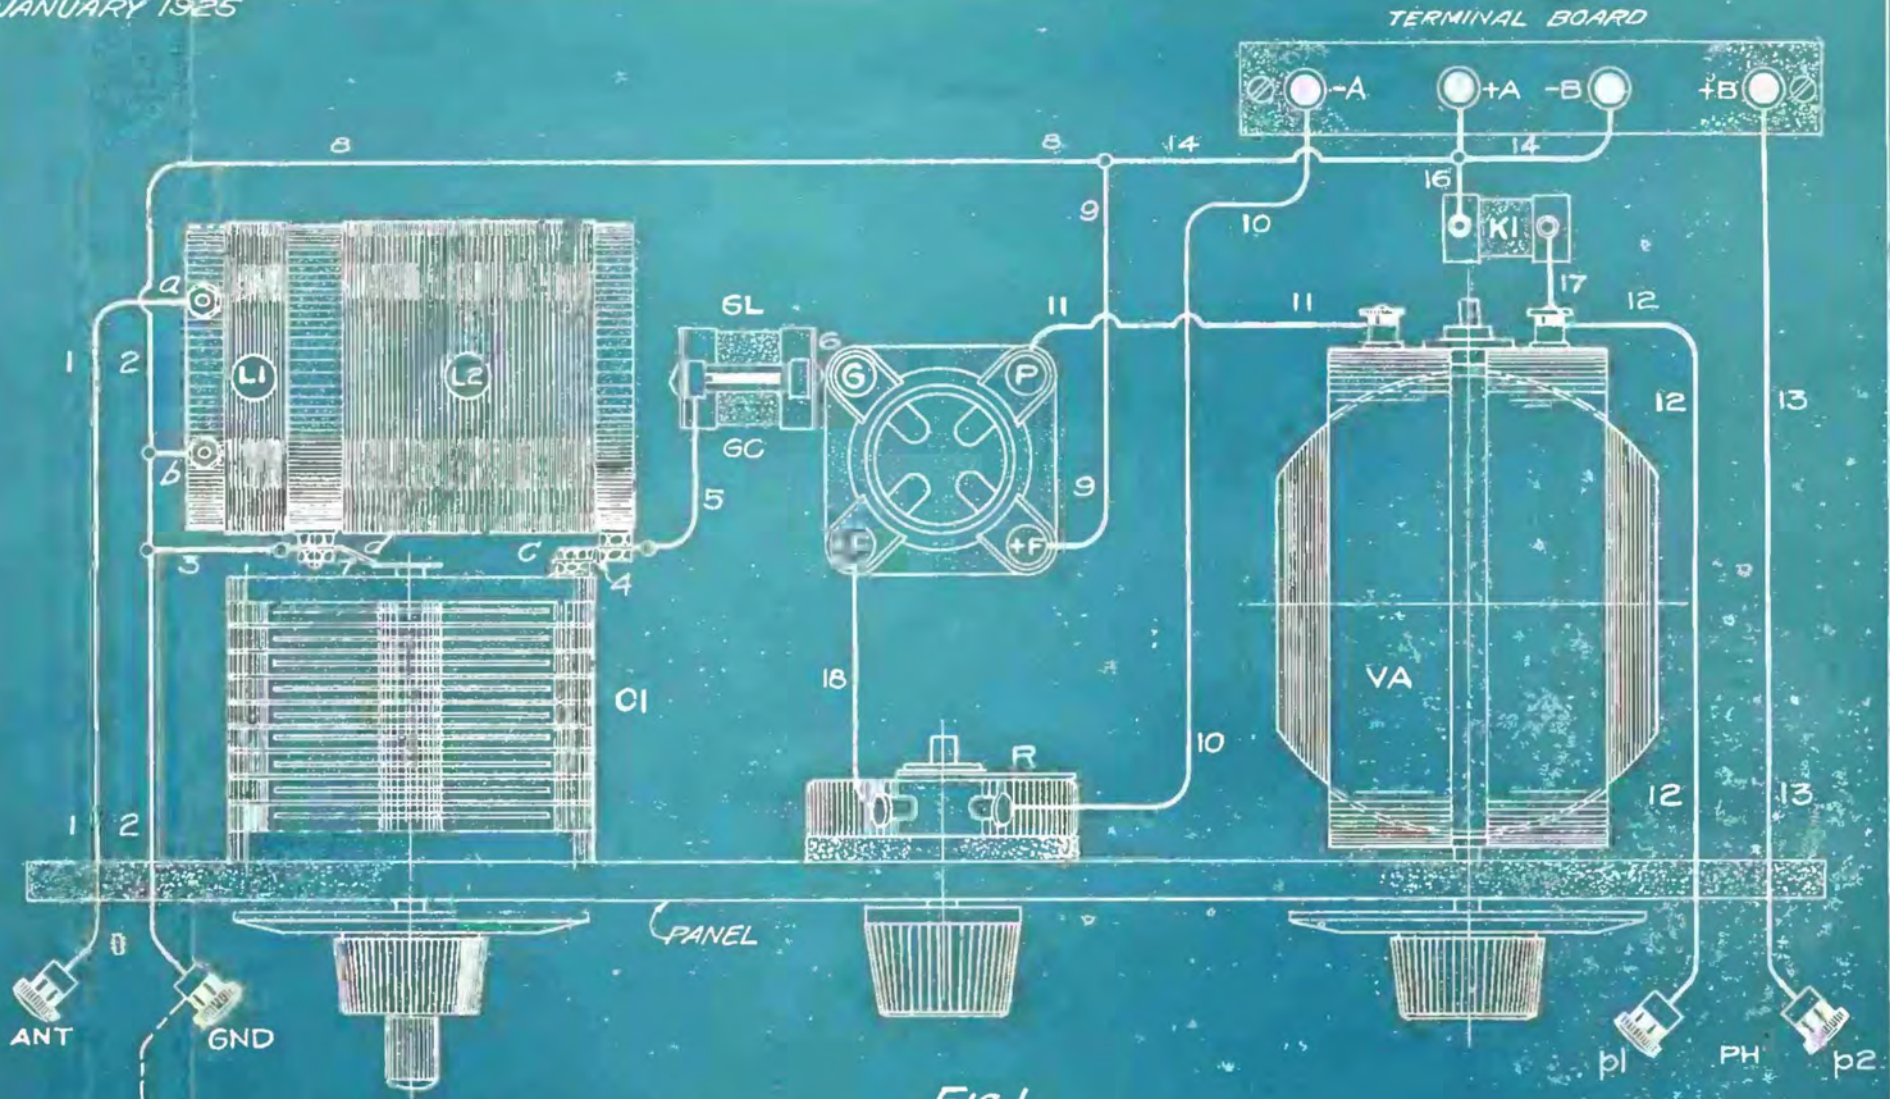
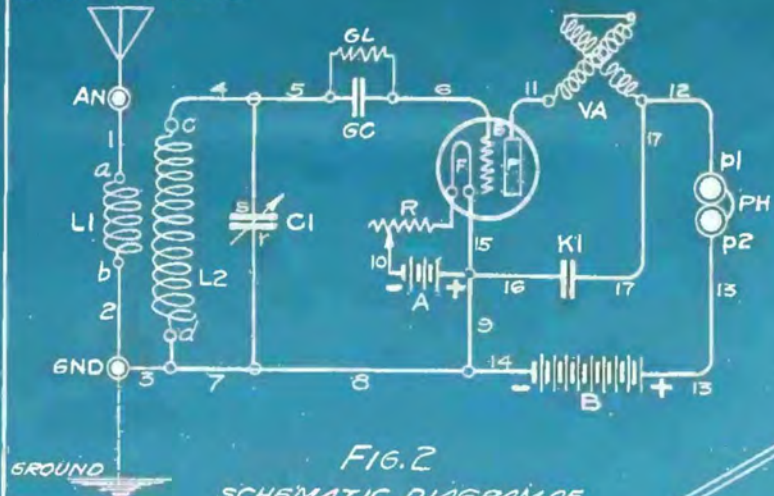
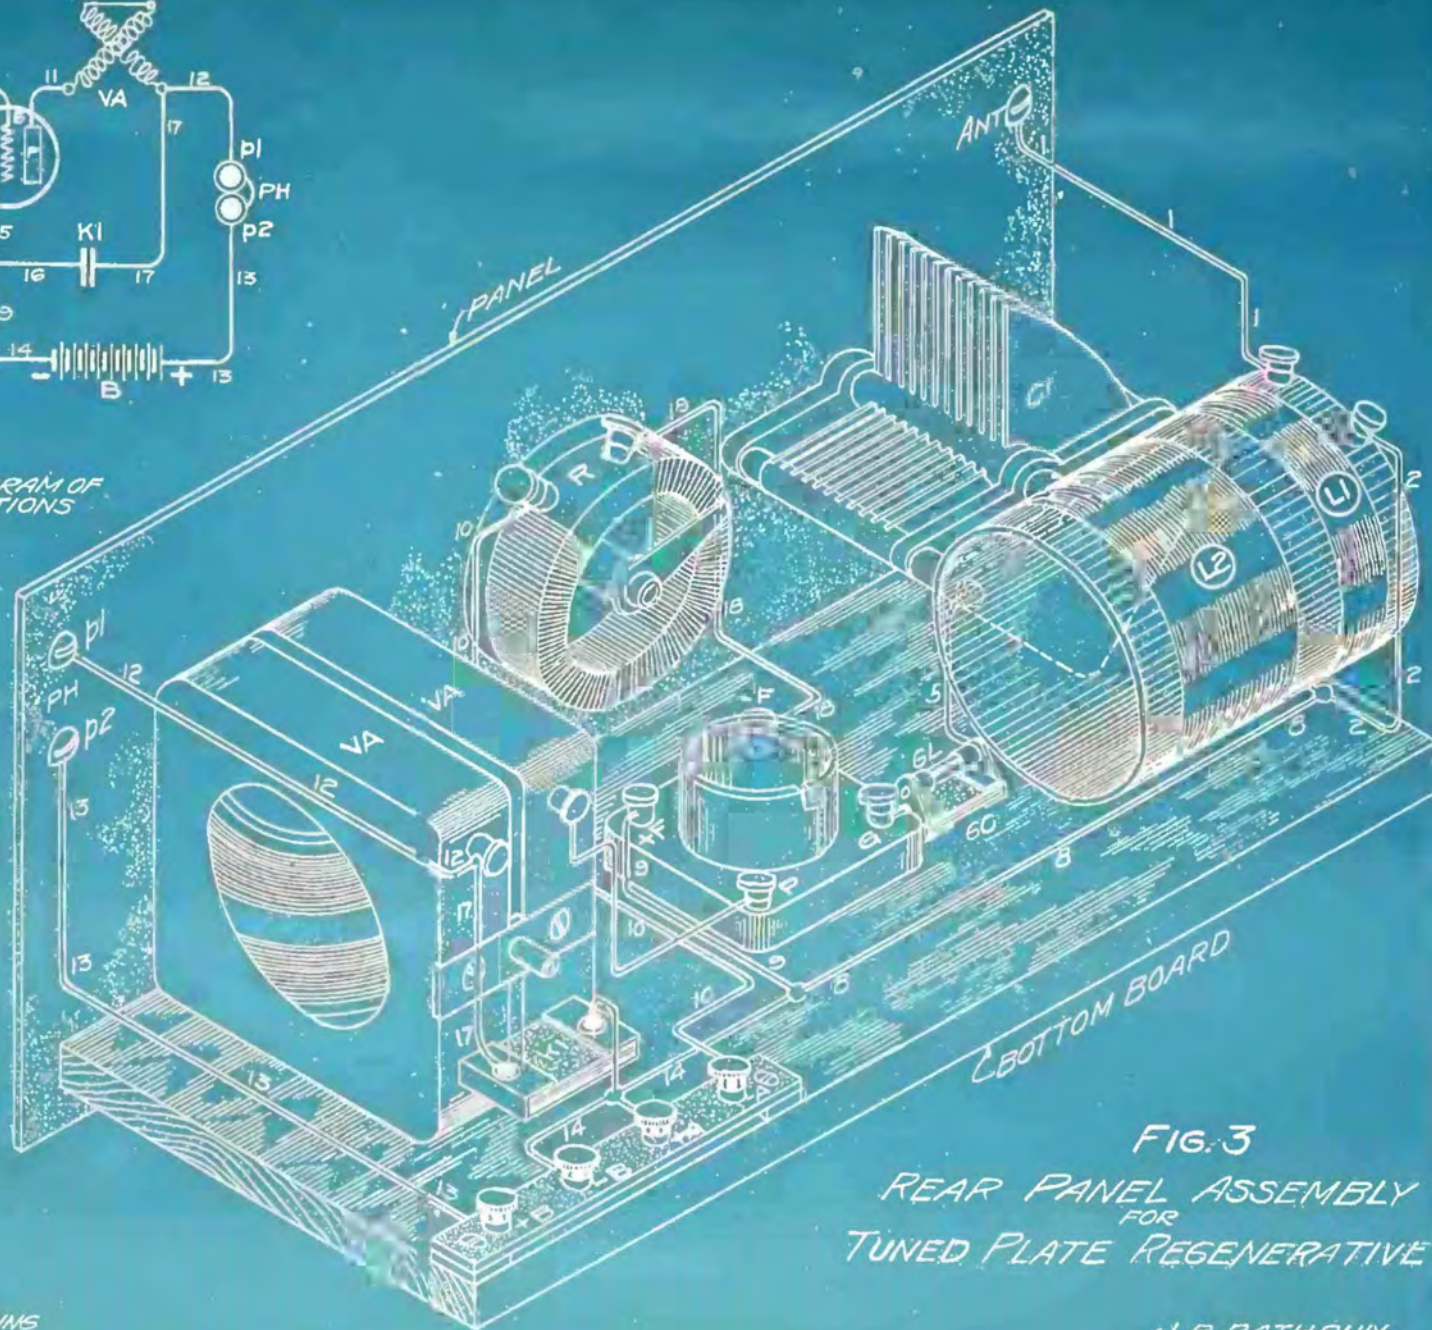

FIG. 1
FIG. 2
FIG. 3
FIGS. 1-2 show the circuit of the three tube "99" Reflex, Fig. 1 being a picture diagram while Fig. 2 is a conventional diagram with the various parts denoted by symbols, the latter being of use to the more experienced builder who wishes to trace out the functioning of the circuit. Fig. 3 is an isometric view showing the appearance from the back of the panel and the general arrangement of the apparatus, but should not be used exclusively for hooking up the set as several of the wires are concealed behind the various units.
On examining Fig. 1 or Fig. 2 we see that two common air core radio transformers or "neutroformers" (RFT-1) and (RFT-2) are used for coupling the R. F. stages. They are preferably tuned by the 17 plate (0.00035 mf) condensers (C1) and (C2) of the vernier type.
Fig. 1 is a "picture diagram" of the circuit arranged for the use of the beginner. In Fig. 2 is a schematic diagram by which the action of the circuit can be more easily traced out by those experienced in handling symbolic diagrams. In the following description we will refer, therefore, particularly to Fig. 2, although all three views bear the same reference numbers and figures. By this system of lettering, the novice can trace back and forth between the two diagrams and thus become acquainted with the conventional symbols which mean so much to the experienced radio man.
In the present "tuned plate" regenerative, the feedback is "capacitative"; that is, the plate current is fed into the grid circuit through the internal capacity of the tube, control being had by means of the variable inductance or variometer (VA.) It will be seen from Fig. 2 that the grid (G) and the plate (P) are like the plates of a condenser in regard to
NOW we will get down to the practical description and give specific instructions for the building of this receiver. We can now include the picture diagram, Fig. 1, and the isometric view of Fig. 3, which shows the general arrangement of the apparatus behind the panel. With the exception of the aperiodic coupler (L1-L2) all of the apparatus is standard. There is nothing at all critical about the set and even the inexperienced need not hesitate. For those experimenters who have built the Baby Heterodyne II, I will say that the same tuner, variometer and condenser can be used for building this circuit, and several of our readers have already done this successfully. The aperiodic coupler has been described many times in these columns, but for the benefit of the newcomers, I will repeat these specifications.
Two cases of error were corrected for readers who misunderstood the purpose of showing a part of the circuit in dotted lines (Fig. 2), they assuming that the dotted lines indicated that these wires could be used or omitted at pleasure. All lines whether solid or dotted must be used in the circuit. I showed certain